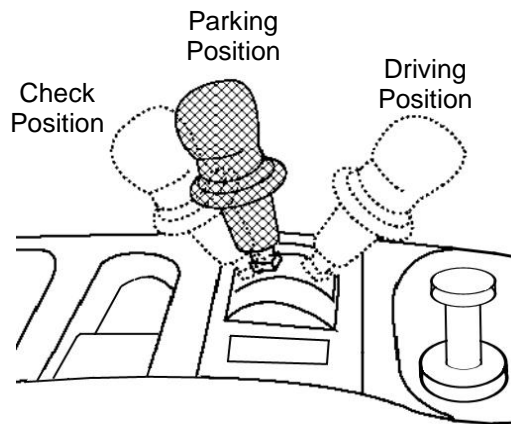

Figure 9.1
- Engage park brake, red lever next to seat (Figure 9.1). Some models are equipped with an alarm that will sound if parking brake is not engaged and the ignition is turned off.